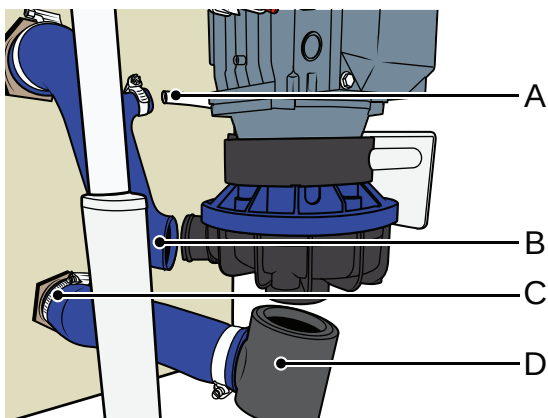

Figure 48
1. See Figure 48.
- Loosen the clamp and disconnect the white disinfection pipe (A).
- Loosen the clamp and pull off the hose end (B).
- Loosen the clamp (C), pull down and remove the elbow with hose (D).